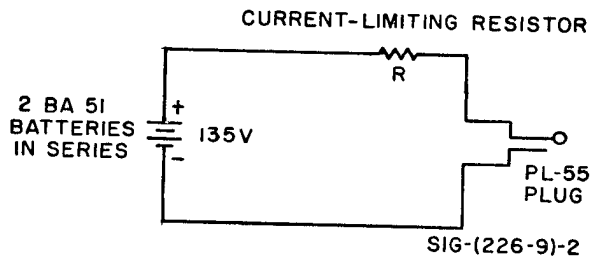

Figure 3. Connection schematic for dosimeter charger.
b. Tape two Batteries BA-51 together. Wire the plug, the current-limiting resistor, and the two series-connected batteries as shown in figure 3. If Batteries BA-51 are not available, any com-